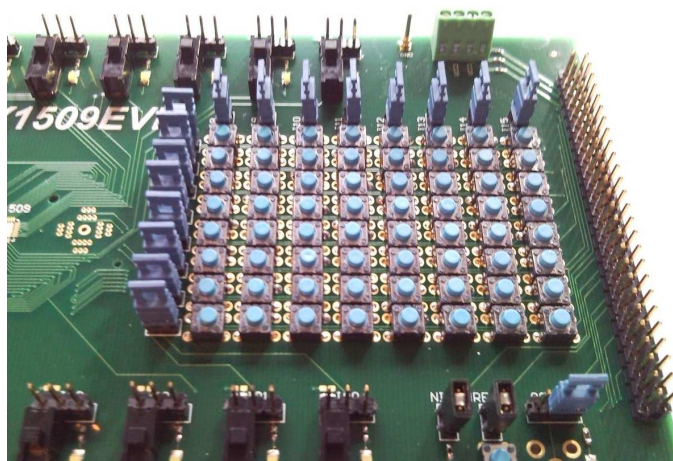

Figure 14: SX1509EVK Keypad Demo Jumpers Configuration (keypad position)
- ⇒ Jumper on corresponding keypad position (Cf. *Figure 14*): IO is connected to the keypad's corresponding row or column to use the keypad scan engine.